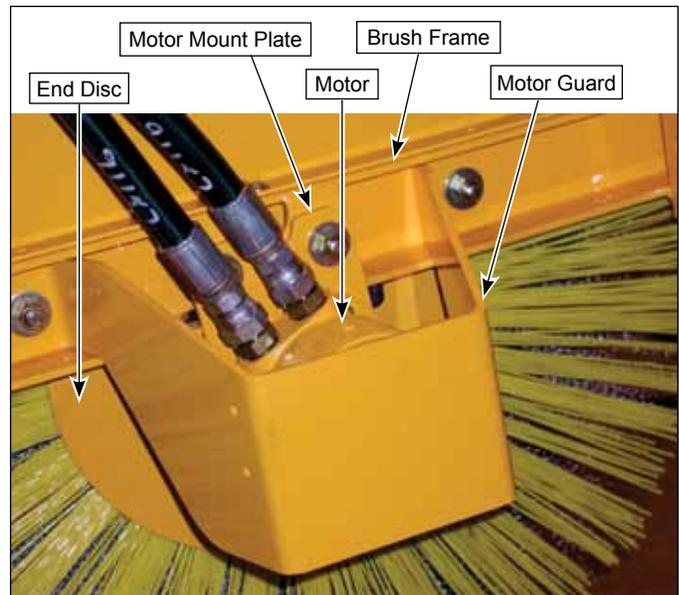

Figure 1
2. Remove (2) 1/2-13 x 1-1/2" capscrows, flat washers, lock nuts and motor guard from brush frame. Retain guard and mounting hardware. See Figure 1.
3. Remove (2) 1/2-13 x 1-1/2" capscrows, flat washers, lock nuts and motor mount plate from brush frame. Slide motor out of mating splined hub. Let motor hang on hoses. Retain mounting hardware. See Figure 1.
4. Install motor mount plate on brush frame using original hardware. See Figure 1.
5. Install motor guard on brush frame with original hardware. See Figure 1.